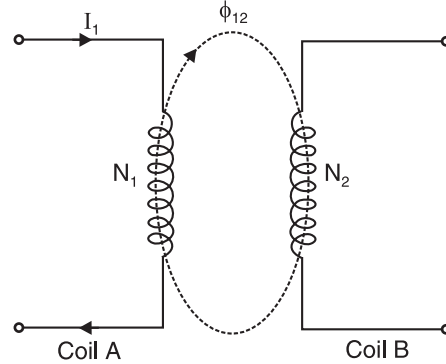

Fig. 9.13
**(ii) Second Method.** Let there be two magnetically coupled coils  $A$  and  $B$  having  $N_1$  and  $N_2$  turns respectively (See Fig. 9.13 ). Suppose a current  $I_1$  flowing in coil  $A$  produces a mutual flux  $\phi_{12}$ . Note that mutual flux  $\phi_{12}$  is that part of the flux created by coil  $A$  which links the coil  $B$ .
**(iii) Third Method.** The mutual inductance between the two coils can be determined in terms of physical dimensions of the magnetic circuit. Fig. 9.13 shows two magnetically coupled coils *A* and *B* having  $N_1$  and  $N_2$  turns respectively. Suppose  $l$  and ' $a$ ' are the length and area of cross-section of the magnetic circuit respectively. Let  $\mu_r$  be the relative permeability of the material of which the magnetic circuit is composed.